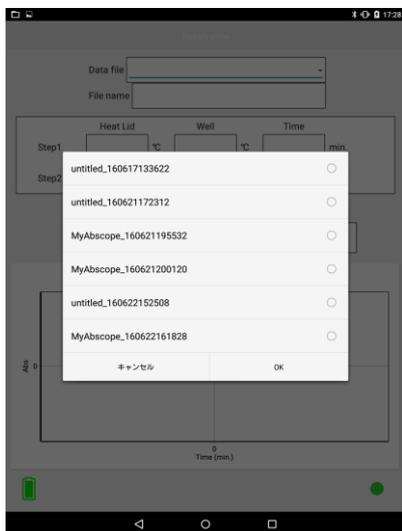
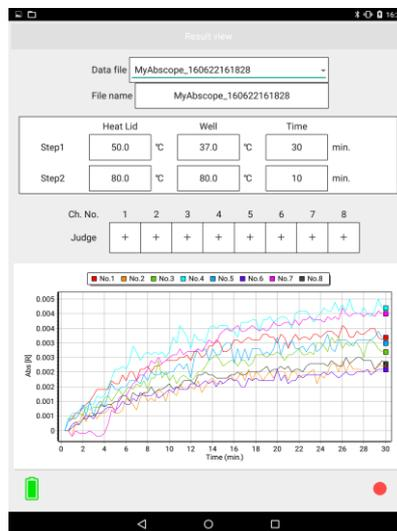

Figure 5-3: File name selection screen
Figure 5-4: Detailed data screen
- (2) Tapping the stored data name input field (1) in Figure 5-2 displays the file name selection screen shown in Figure 5-3. Select the file name you want to check and tap “OK,” then the data and graphs are displayed as shown in Figure 5-4.